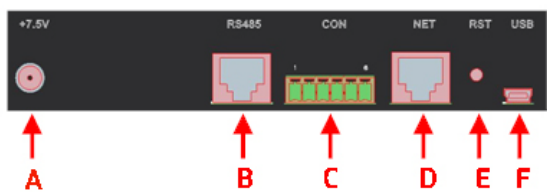
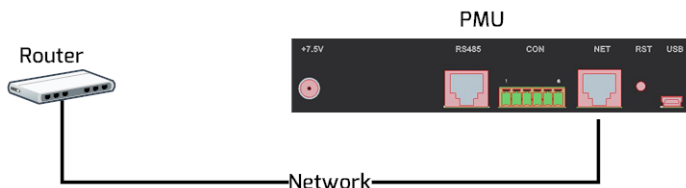
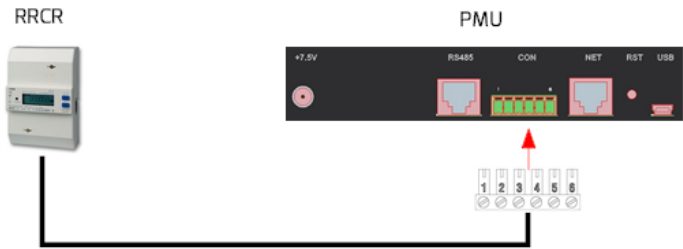

Fig. 6-1: Connection area
Fig. 6-5: PMU linked network
Fig. 6-8: Connect to RRCR
Fig. 6-1 shows the connection interfaces of the PMU to other devices.
The function of each interface in Fig. 6-1 is shown in Table 6-2.
Step 2: Connect the inverter with the PMU. Connect the inverter closest to the RS485 interface of the PMU (as the port B in Fig. 6-1) as shown in Fig. 6-2.
1. The RS485 port between the PMU and the inverter (port B in Fig. 6-1) uses the RJ45 socket. Please make sure to use the correct position.
The PMU is connected to the network by simply connecting the network cable from the router to the network port of PMU (port D in Fig. 6-1), as shown in Fig. 6-5.
The RRCR is connected to the CON port of the PMU (port C in Fig. 6-1), as shown in Fig. 6-8.
Connect the power adapter from the box with the Power Port (port A in Fig. 6-1). Plug the other end into a power outlet, check that the LED (Power) light turns on as shown in Fig. 4-1, and watch the PMU start to work.